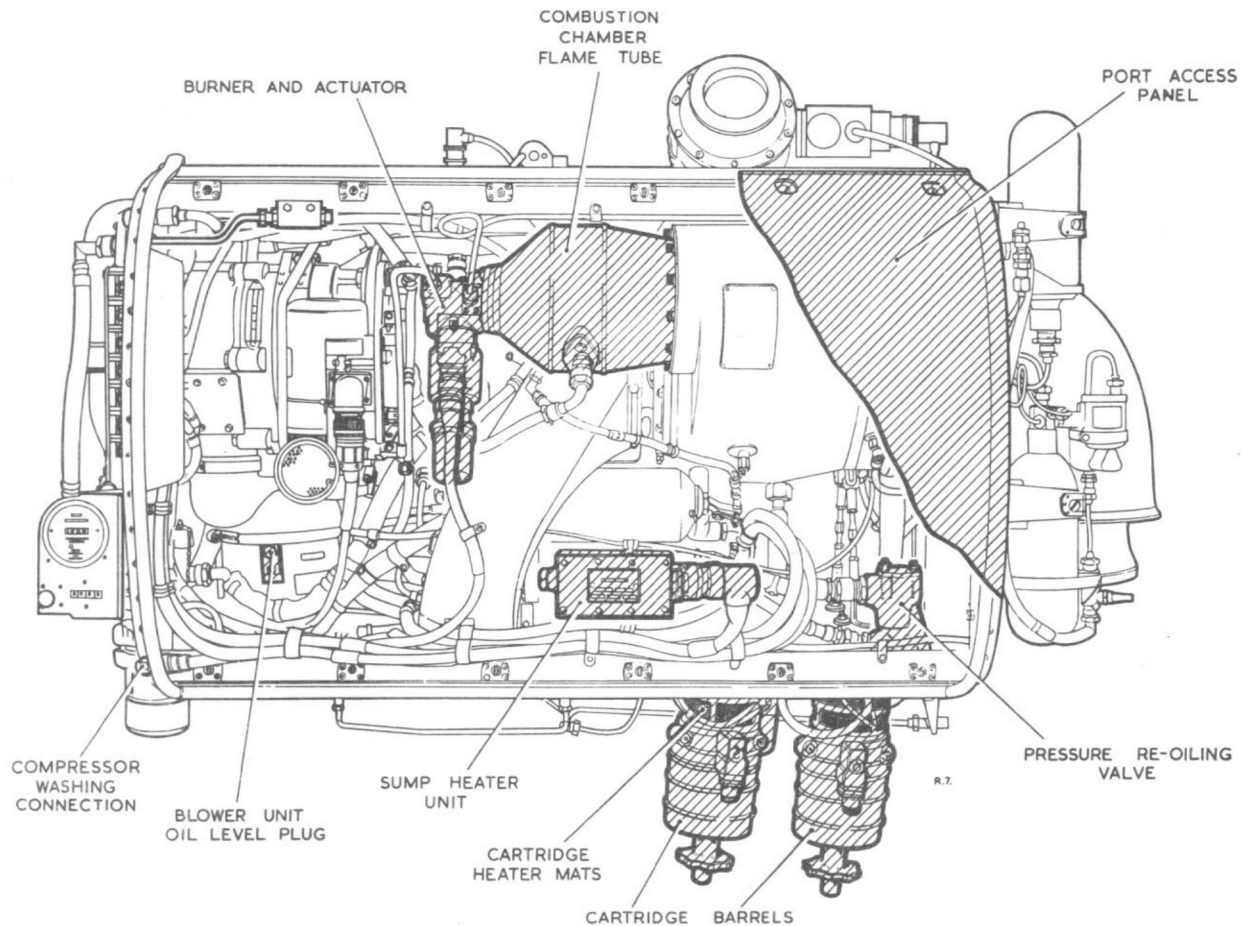

Fig.1 Routine servicing points (sheet 1)
2. The main servicing points covered by this chapter are shown in fig.1, 2 and 3. Some servicing operations, however, require the a.a.p.p. to be mounted in the ground running stand, and tested, for full details of this procedure, refer to Sect.6.